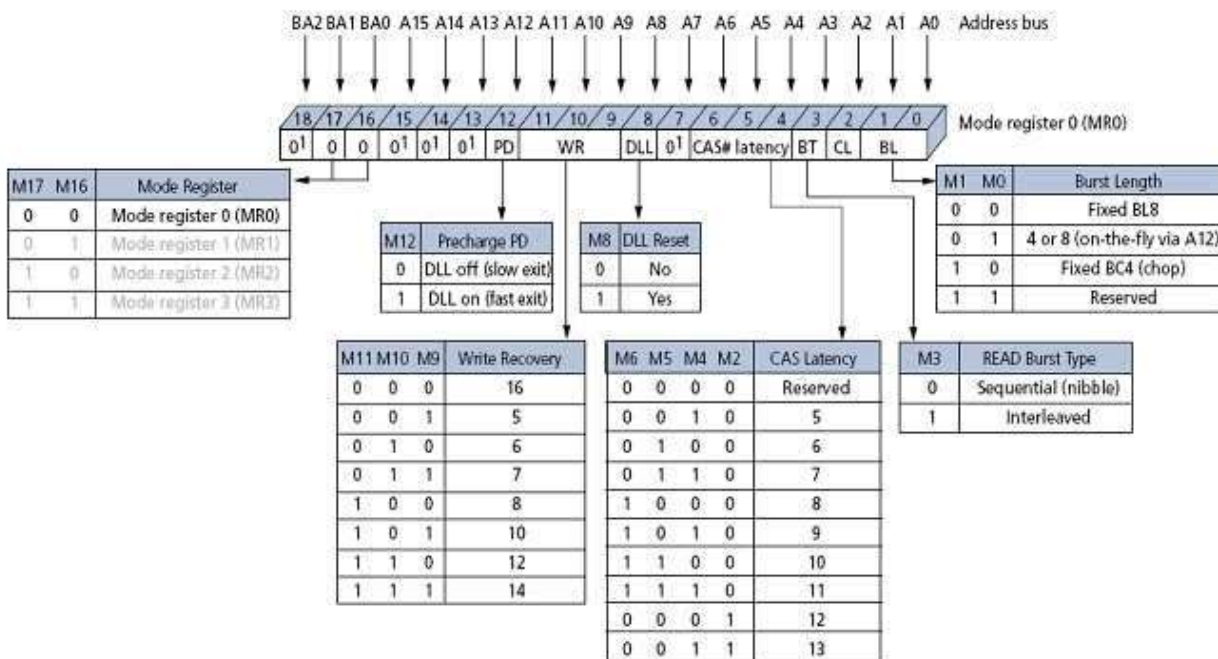

Figure 4-41: Mode Register 0 (MR0) Definitions
The base register, mode register 0 (MR0), is used to define various DDR3(L) SDRAM modes of operation. These definitions include the selection of a burst length, burst type, CAS latency, operating mode, DLL RESET, write recovery, and precharge power-down mode (see Figure 4-41).
Accesses within a given burst can be programmed to either a sequential or an interleaved order. The burst type is selected via MR0[3] (see Figure 4-41). The ordering of accesses within a burst is determined by the burst length, the burst type, and the starting column address. DDR3(L) only supports 4-bit burst chop and 8-bit burst access modes. Full interleave address ordering is supported for READs, while WRITEs are restricted to nibble (BC4) or word (BL8) boundaries.
DLL RESET is defined by MR0[8] (see Figure 4-41). Programming MR0[8] to 1 activates the DLL RESET function. MR0[8] is self-clearing, meaning it returns to a value of 0 after the DLL RESET function has been initiated.
WRITE recovery time is defined by MR0[11:9] (see Figure 4-41). Write recovery values of 5, 6, 7, 8, 10, or 12 can be used by programming MR0[11:9]. The user is required to program the correct value of write recovery, which is calculated by dividing tWR (ns) by tCK (ns) and rounding up a noninteger value to the next integer:
CAS latency (CL) is defined by MR0[6:4], as shown in Figure 4-41. CAS latency is the delay, in clock cycles, between the internal READ command and the availability of the first bit of output data. CL can be set to 5 through 14. DDR3(L) SDRAM do not support half-clock latencies.